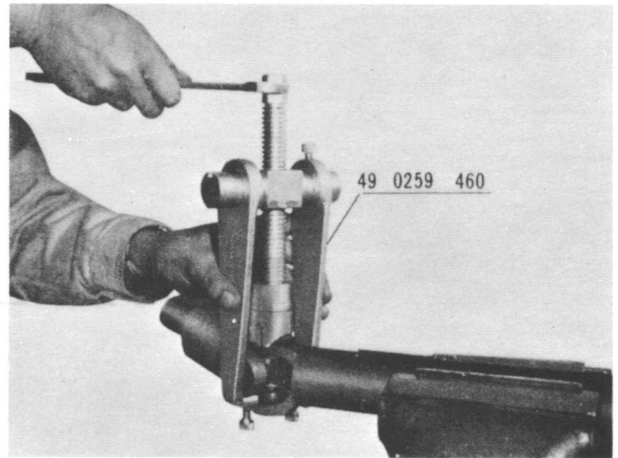

Fig. 8-3 Disassembling universal joint
3. Install the **universal joint replacer** (49 0259 460) to the universal joint yoke as shown in Fig. 8-3.